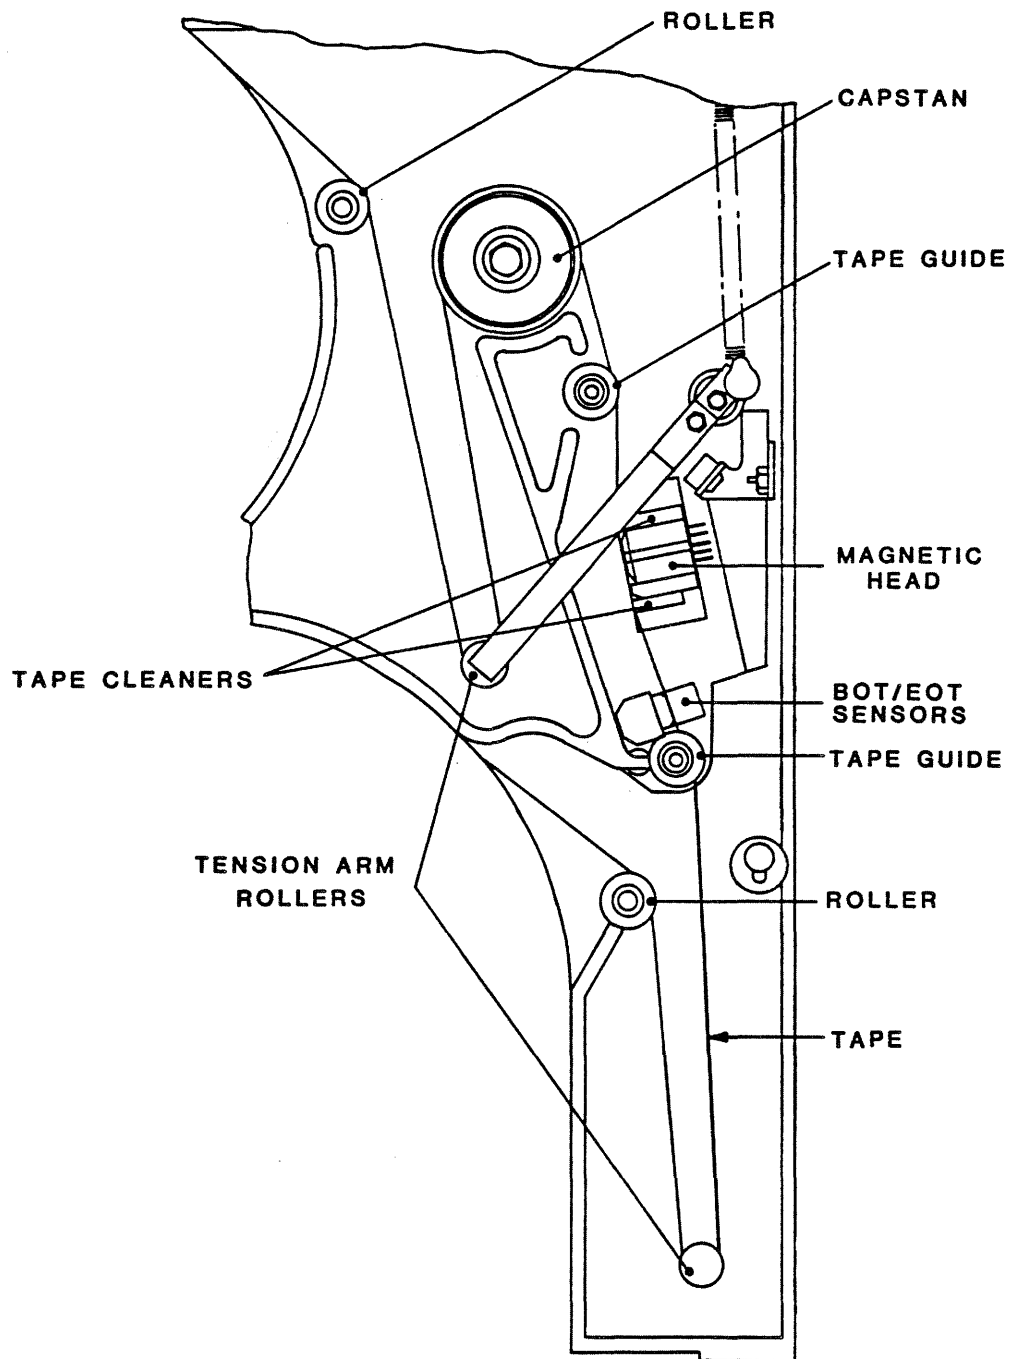

Figure 4-2 Tape Path Cleaning
**4.1.2.3 TAPE PATH CLEANING (Figure 4-2)**